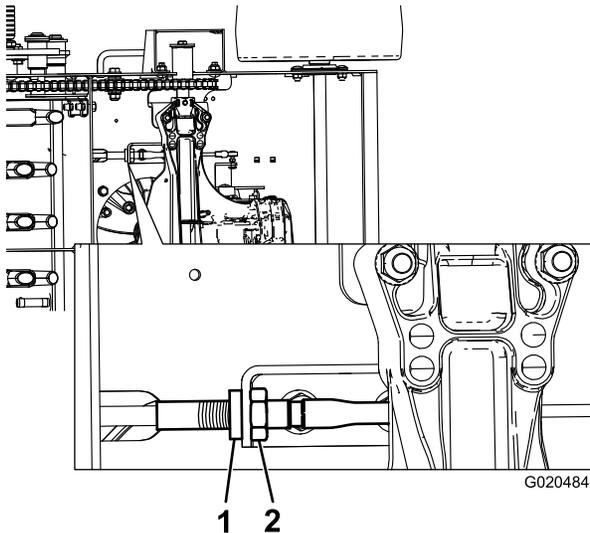

Figure 36
2. Adjust the traction drive cable at the lower anchor by moving the nut to the end of the thread and tightening the jam nut (Figure 36).